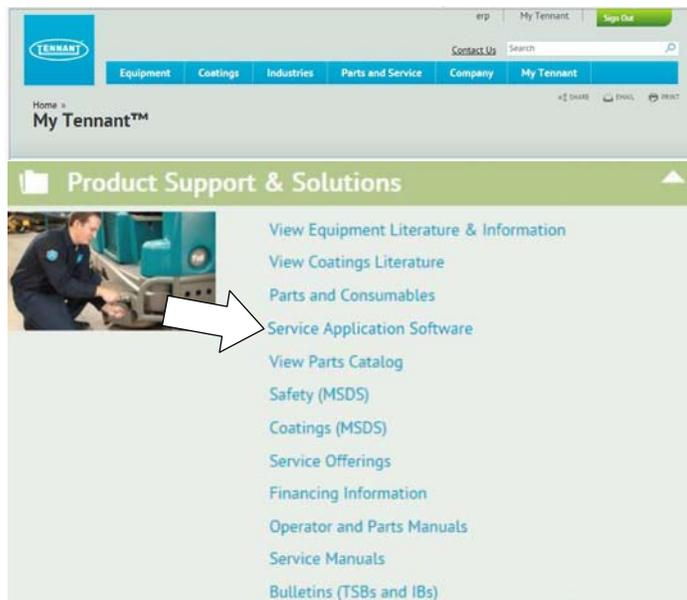

Fig. 18
3. Once logged on to the “My Tennant™” website, click on the “Service Application Software” link under the “Product Support & Solution” section as shown below (Figure 18).